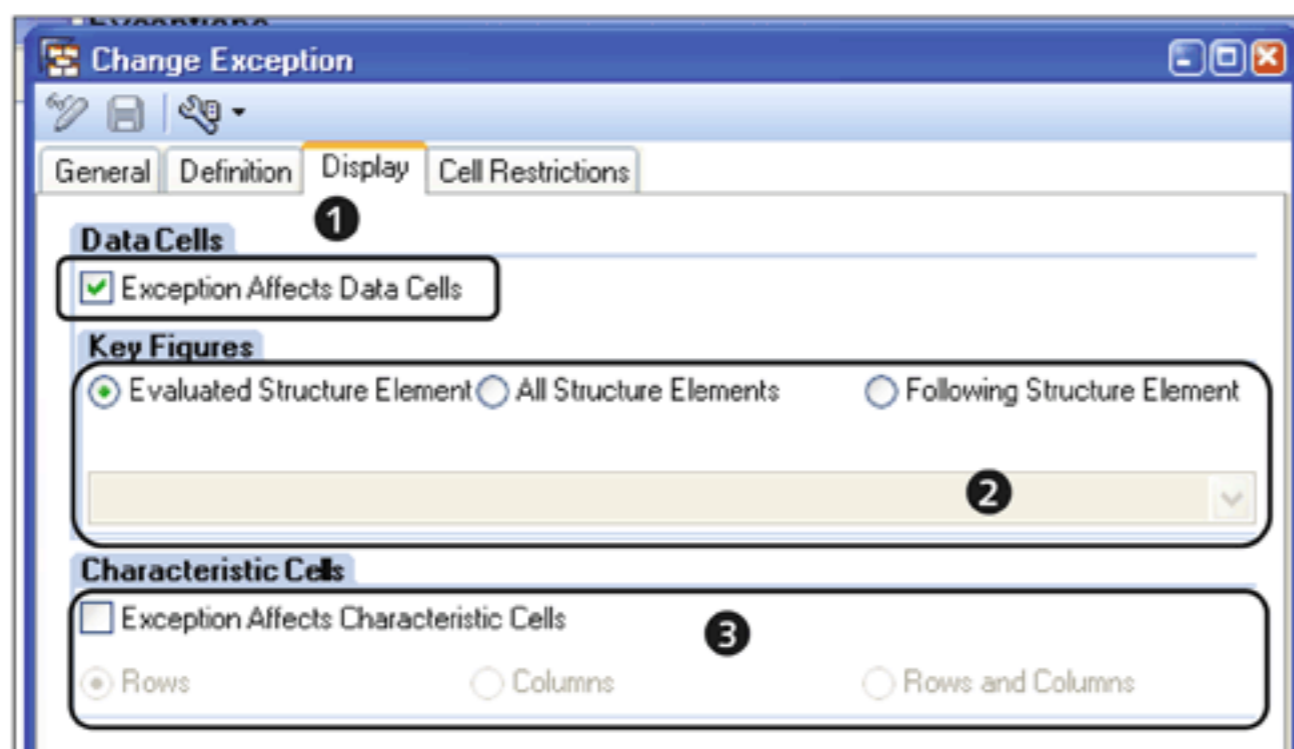

Figure 9.90 Exceptions: Display
The DISPLAY tab contains the settings where you can define the query elements that should be highlighted for the exception (see Figure 9.90). If you select the setting EXCEPTION AFFECTS DATA CELLS (1), then you can select which data elements should be highlighted for this exception (2). Similarly, if you select the setting EXCEPTION AFFECTS CHARACTERISTIC CELLS, you can specify if the rows or columns or both rows and columns should be highlighted if an exception occurs (3).